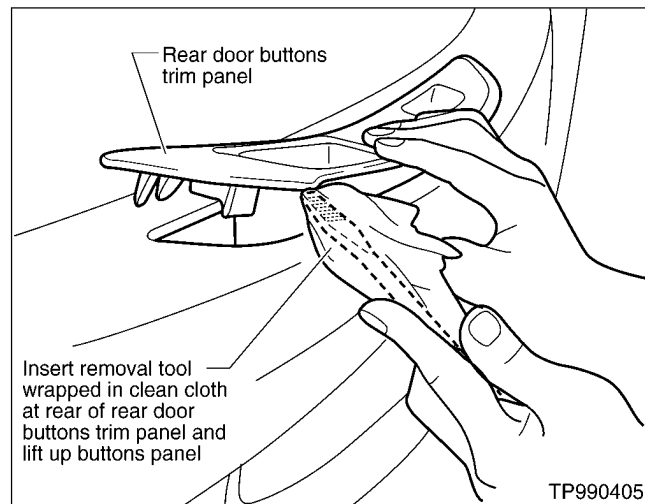

Figure 16
- A. Insert a removal tool wrapped in a clean cloth between the rear of the arm rest and the rear door buttons trim panel. Lift up the panel (see Figure 16).